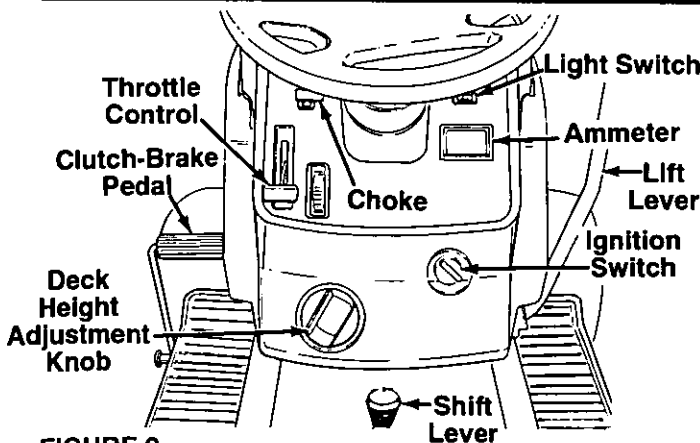

FIGURE 9.
The throttle control is used to regulate the engine speed. To get maximum efficiency from cutting, the throttle should be in the FAST position when operating the mower. See figure 9.
The choke control is located on the dashboard and is operated manually. Details for the choke operation are covered in the separate engine manual packed with your unit. See figure 9.
The shift lever is located in the center of the console and has three positions, FORWARD, NEUTRAL and REVERSE. See figure 9. The clutch-brake pedal must be depressed and the lawn tractor must not be moving when shifting gears. Do not force the shift lever. Release the clutch-brake pedal slightly to line up the shifting collar in the transmission. Then try to shift gears.
Turn the key to the START position to start the engine. When the engine is running, let the key return to the ON position. To stop the engine, turn the key to the left to the OFF position and remove it to prevent accidental starting. See figure 9.
The ammeter registers the rate of battery charge or discharge. The ammeter will register on the discharging side when starting the engine. It should register on the opposite side (charging) when the engine is running in the fast position until the battery is completely charged. With a fully charged battery or with the engine idling, the ammeter will not show a charge. See figure 9.
The clutch-brake pedal is located on the left side of the lawn tractor. Depressing the clutch-brake pedal part way disengages the clutch. Pressing the pedal all the way down disengages the clutch and engages the disc brake. See figure 9.
**NOTE:** The lift lever *must* be in the disengaged position when starting the engine, when shifting into reverse and if the operator leaves the seat. See figure 9.
3. Set the throttle control in the FAST position. See figure 9.
5. Turn the ignition key to the START position. When the engine is running, let the key return to the ON position. See figure 9.